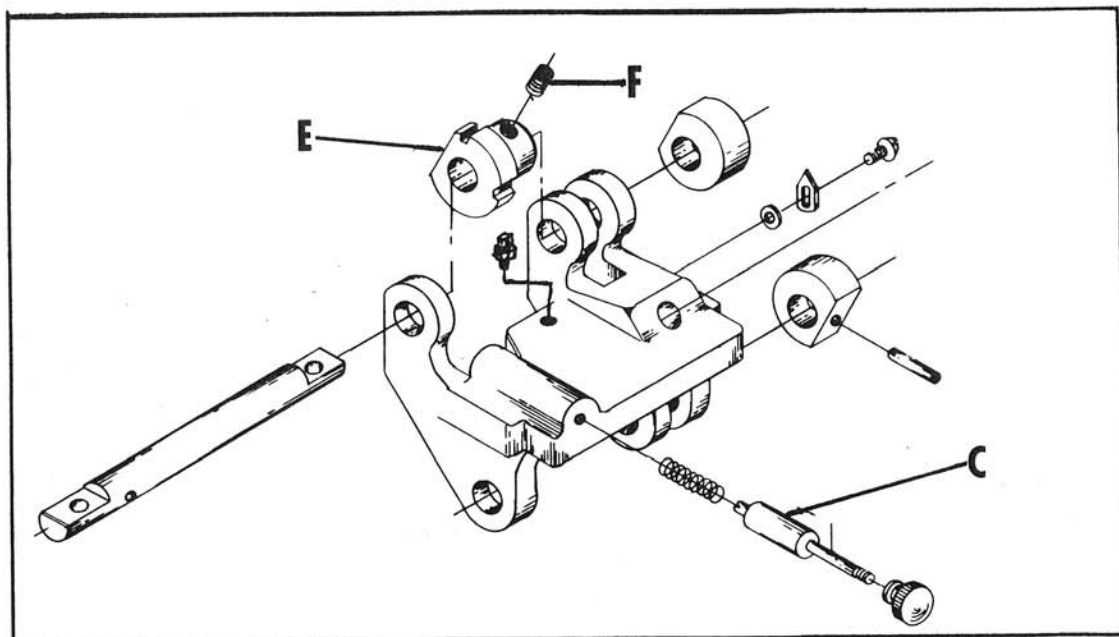

Fig. 16
If the fence is not square with the table when the plunger (C) Fig. 16, is engaged in the slot of the index collar (E), it can be adjusted as follows:
1. Check the fence and table with an accurate square and if the fence is not 90° to the table, loosen set screw (F) in the index collar (E) Fig. 16.
3. When you are sure the fence is at 90° to the table, tighten set screw (F) in the index collar (E) Fig. 16, and adjust pointer if necessary.